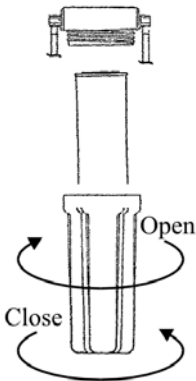

Figure 6
Open the housings of the bottom of the purifier (Figure 6) and place each of the filters in the corresponding housing following labels code. Close all housings.
2. Open the filter housings. Use one hand to hold the system and the other hand to turn the housing clockwise to open (Figure 6).